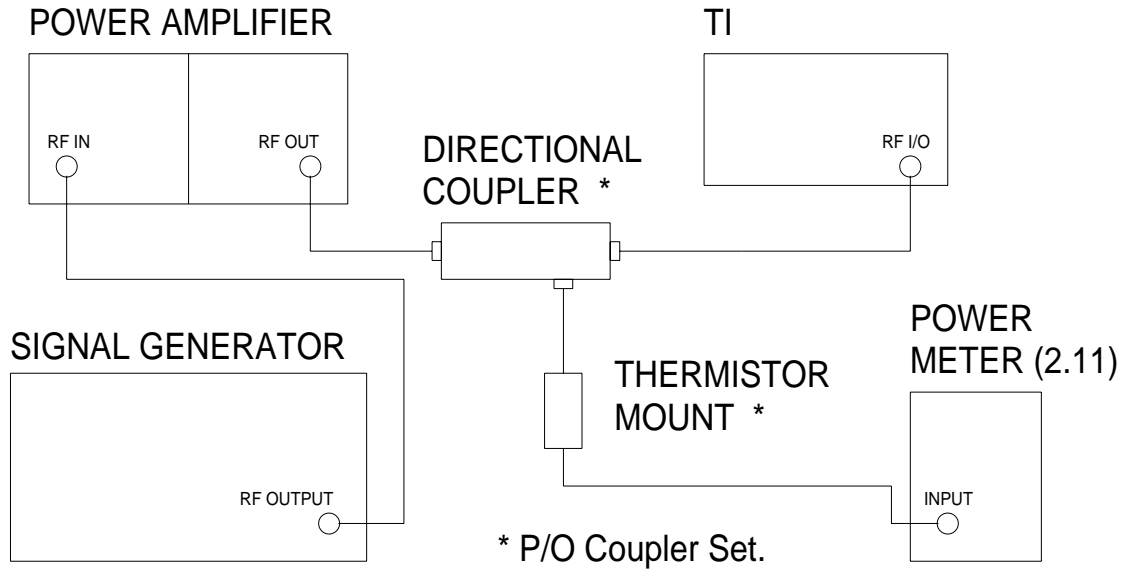

Figure 1.
4.9.4 Connect test equipment as shown in Figure 1.